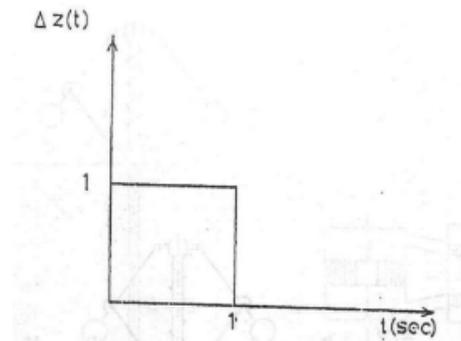

Fig 2
- 3- The Engine response to the signal shown in fig 2